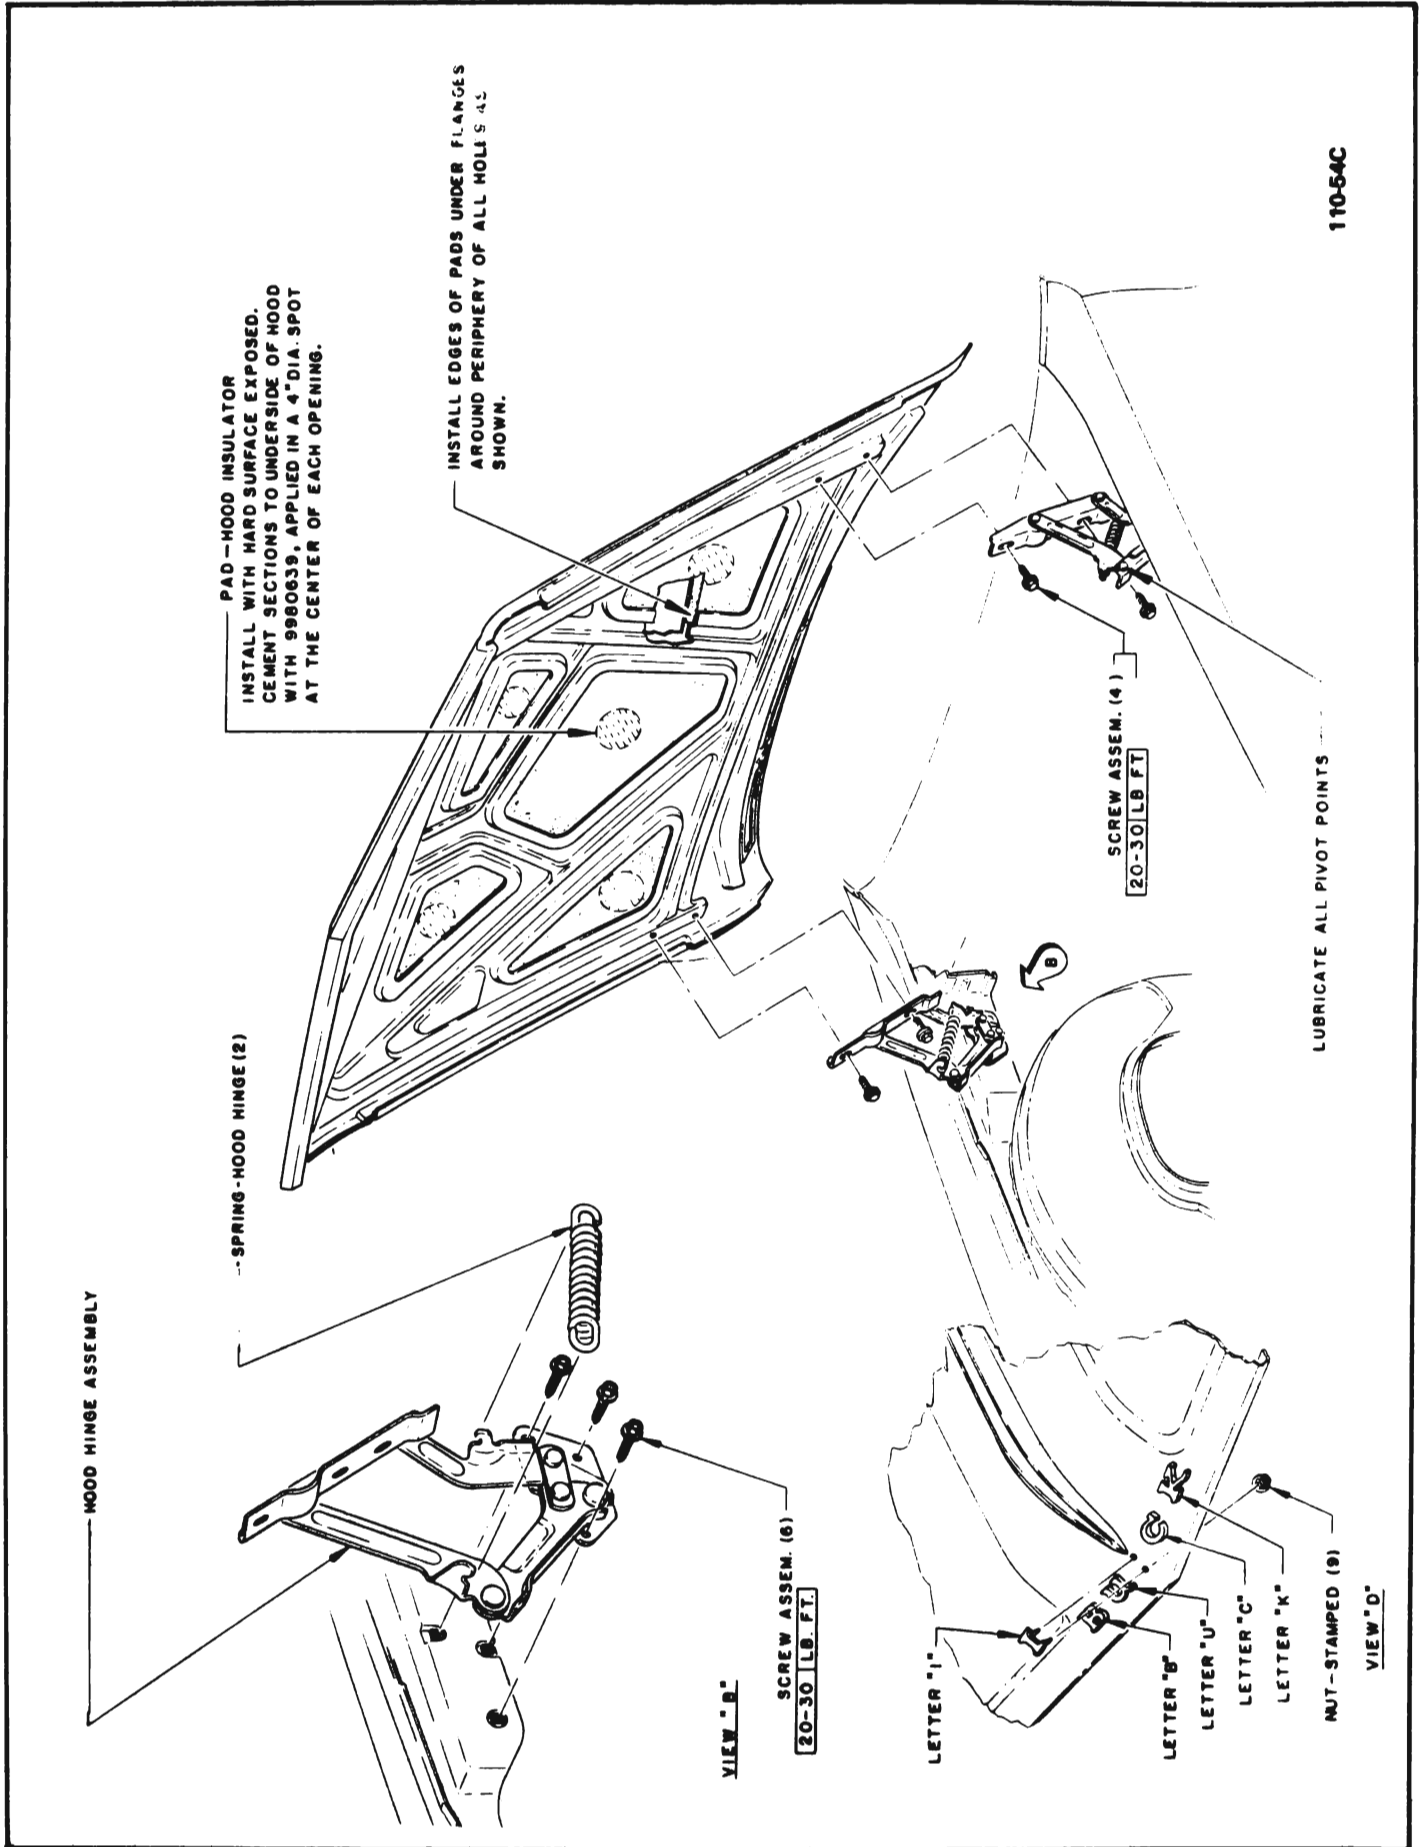

Figure 110-19 45-46-48000 Hood, Hood Hinges
The rear of the hood assembly is attached to the body cowl and fender on each side by hinge assemblies which permit the front of the hood to be raised. A heavy coil spring connected between each hinge assembly assists in raising the hood and holds it in the open position. See Figures 110-19 and 110-20.
3. Scribe position of the hinge attachment on fender. Remove the three bolts attaching the hinge to the fender and remove the hinge. See Figure 110-19.